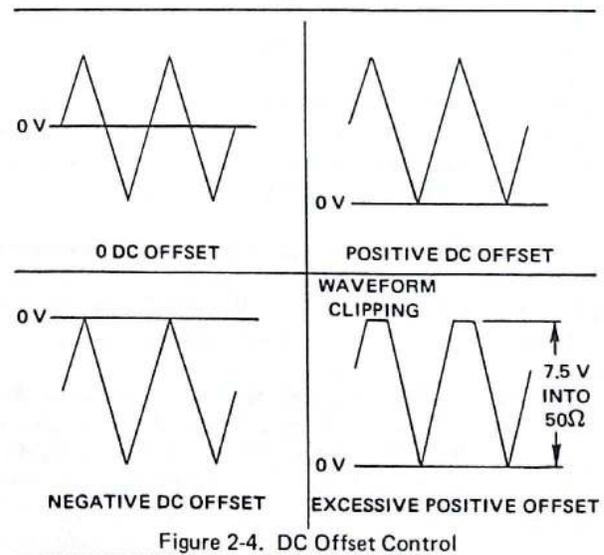

Figure 2-4. DC Offset Control
7. To add dc offset, first set the DC OFFSET control for the polarity of dc offset desired. Next, change the WAVEFORM switch to DC position and, using the readout display, adjust the DC OFFSET VARIABLE control until the desired amount is read on the display. Return the WAVEFORM switch to the selected waveform position. If an excessive amount of dc offset is used, waveform clipping may be observed and the display will flash. The sum of peak waveform voltage and the dc offset cannot exceed the maximum rated output of the generator. For example, on the 0 dB attenuator setting, the maximum output is 15 V peak-to-peak or 7.5 V peak above and below zero volt. Therefore, offset plus the peak voltage cannot exceed 7.5 V peak. See Figure 2-4.